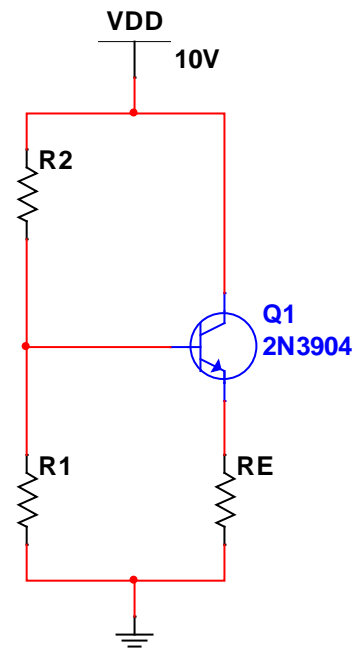

Figure 7. Collector tied to VDD.
7. Power the circuit OFF, connect the collector of Q1 to the +10 V power rail as shown in figure 7.